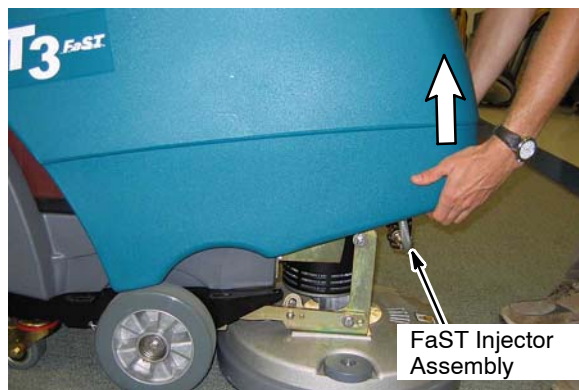

Fig. 5
e.) Lift the front of the shroud to access the FaST injector assembly (Figure 5). For later models, pull shroud forward then lift.